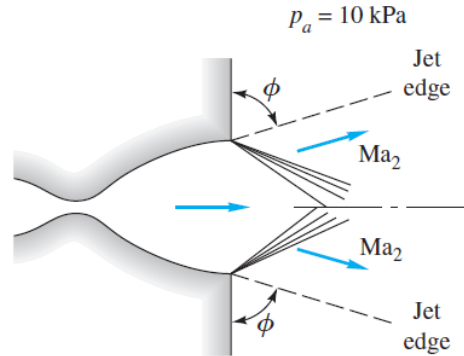

Fig. 9.20
9.20 A converging-diverging nozzle with a 4:1 exit-area ratio and $p_o = 500$ kPa operates in an underexpanded condition (case I of Fig. 9.12b-see book) as in Fig. 9.20. The receiver pressure is $p_a = 10$ kPa, which is less than the exit pressure, so that expansion waves form outside the exit. For